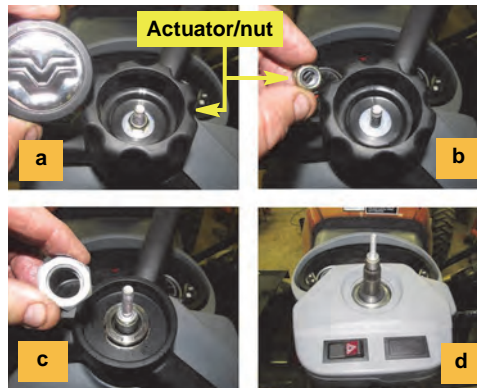

Figure 3 (a-d): Steering wheel removal
- Remove the center cap from the telescoping actuator and remove the actuator nut which you will reuse (Figures 3-a and 3-b).